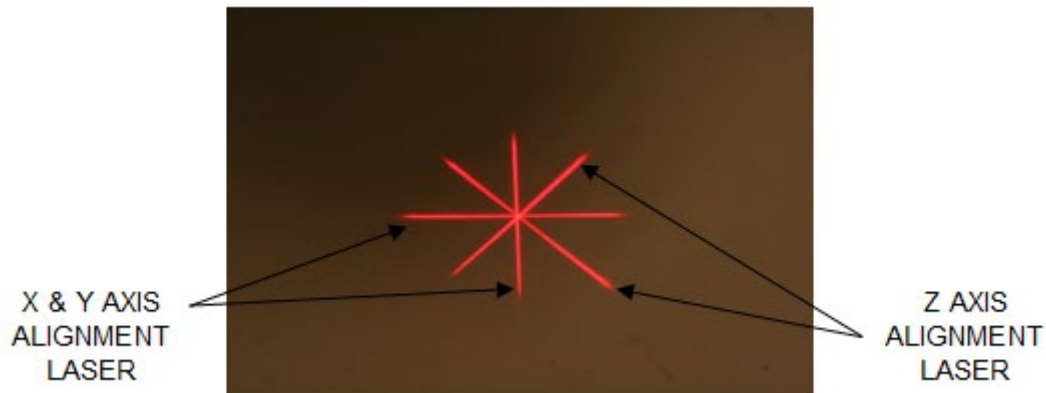

Figure 3-23. Alignment of Red Crosshairs - X & Y Axes and Z Axis
- KXL has two alignment lasers as shown in Figure 3-23.